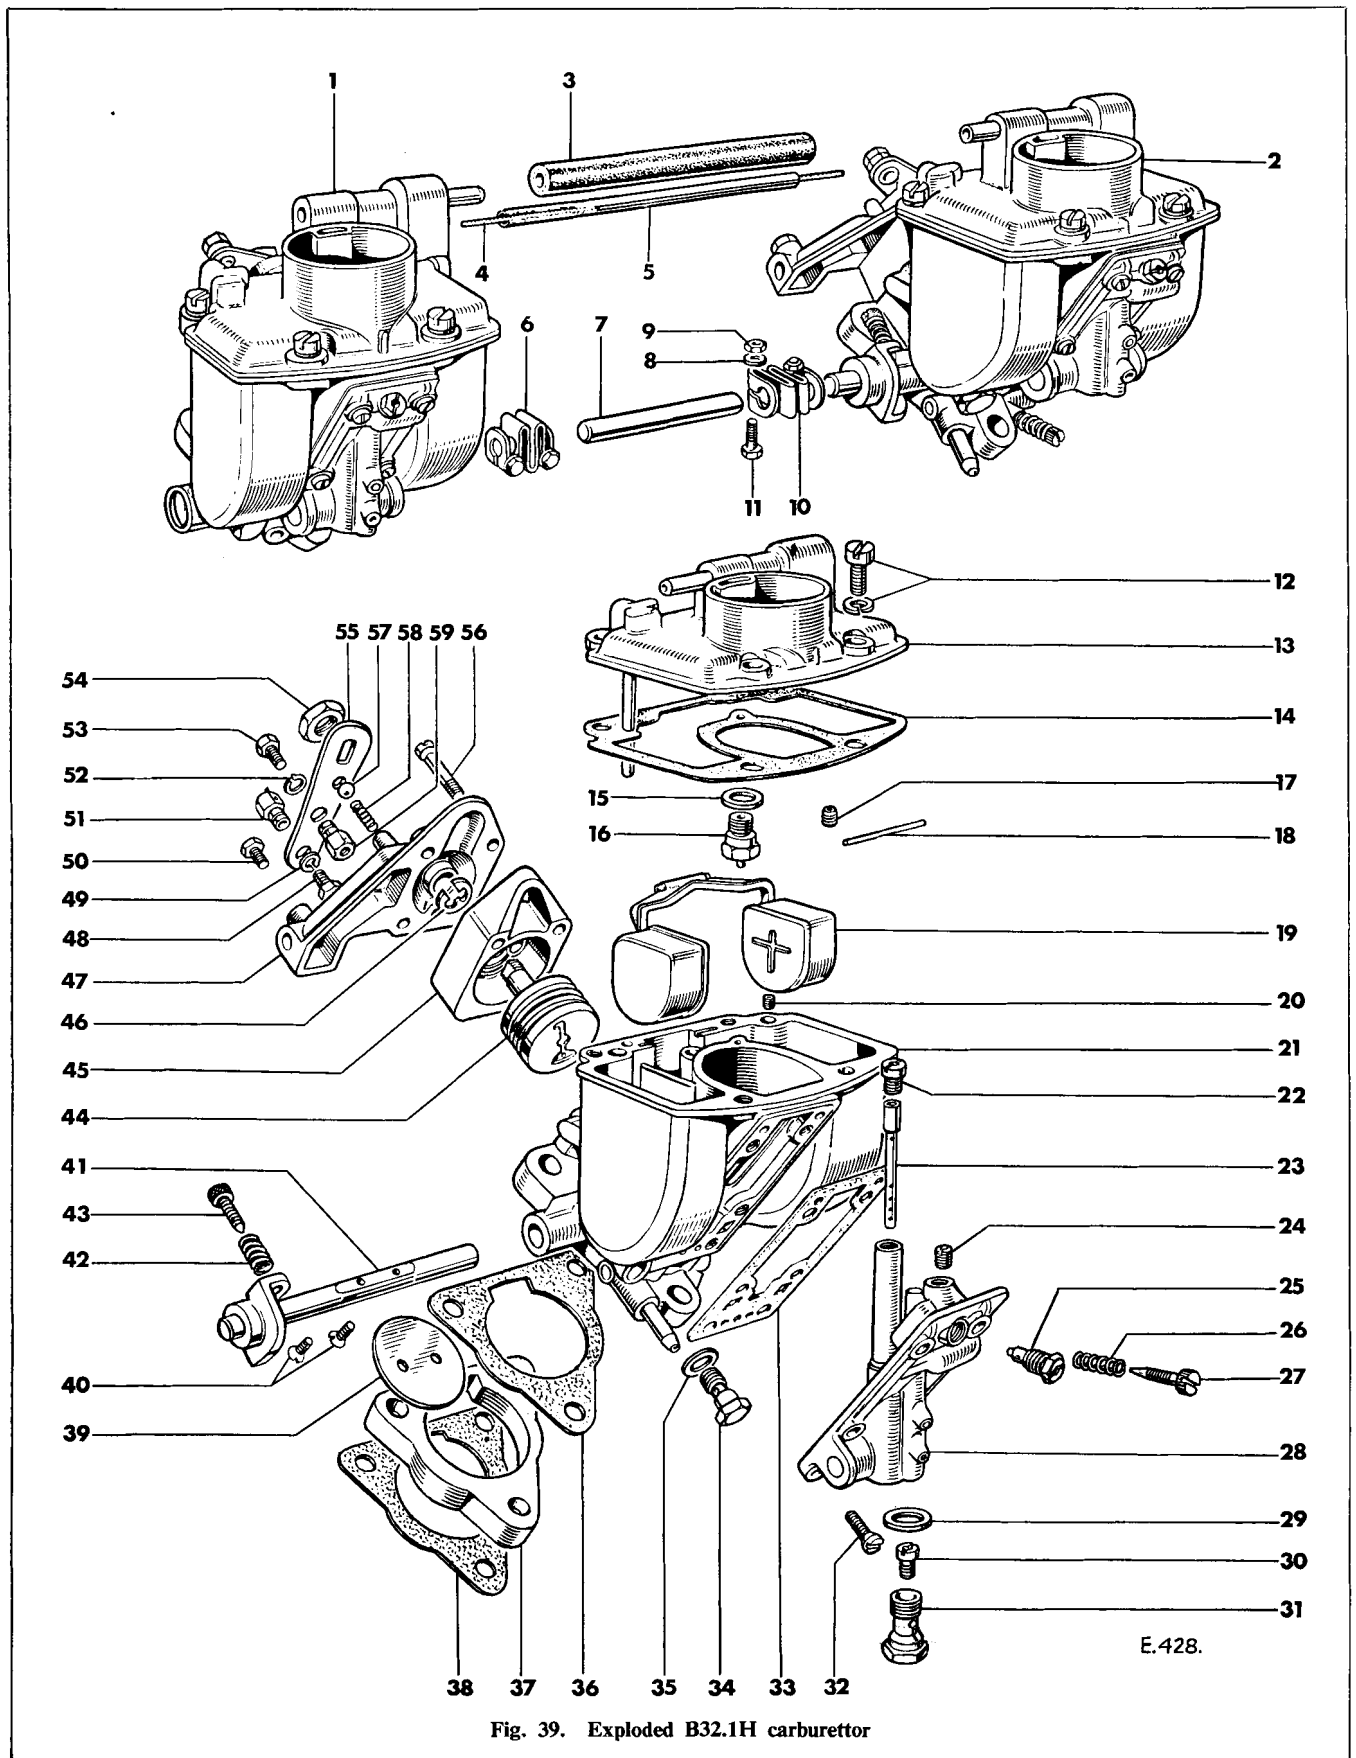

Fig. 39. Exploded B32.1H carburetor
Key to Fig. 39
Unhook the return spring from the throttle coupling rod (7) (Fig. 39). Slacken the clinch bolts (11) and withdraw the spring couplings (6) and (10) from the throttle spindles.
Dismantling (Fig. 39)